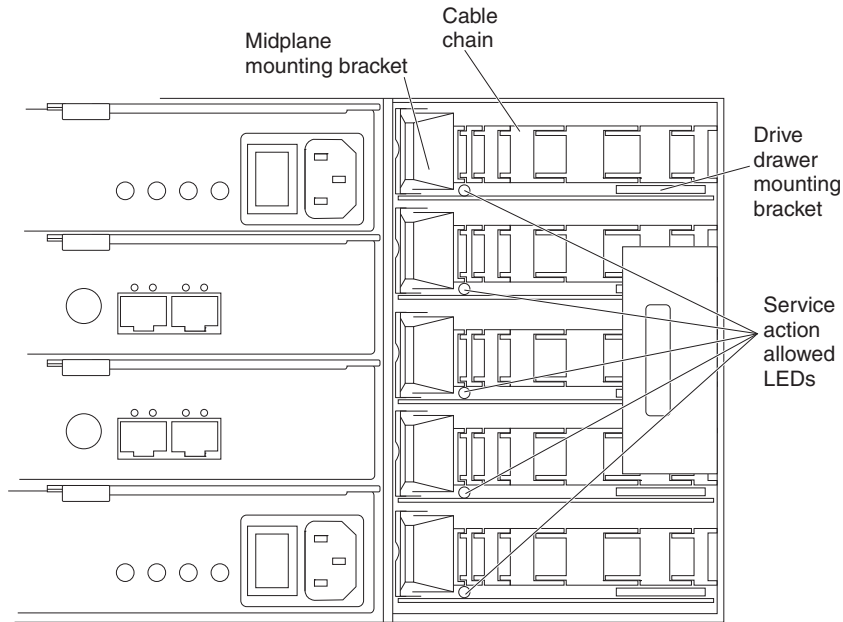

Figure 83. Rear view of the storage expansion enclosure with the right fan assembly removed
- a. At the rear of the drive enclosure, remove the right fan assembly. See “Replacing a fan assembly” on page 132 for the steps to remove a fan assembly. Figure 83 shows the area with the fan assembly removed.